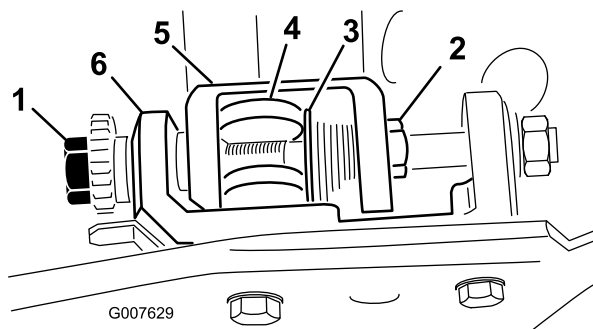

Figure 43
1. Turn the bedbar adjuster screw, counterclockwise, until the channel bottoms out in the adjuster frame (Figure 43).
- Using a 7/8 inch standard wrench, back out the spring tension screw until the thrust washer is no longer tensioned against the bedbar (Figure 43).